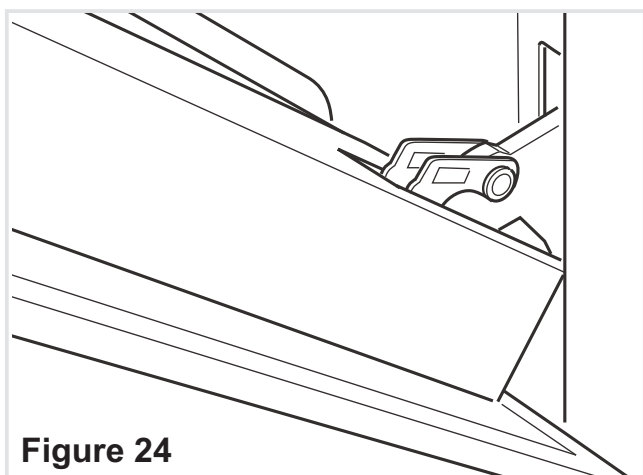

Figure 24
1. Make sure the door is locked open (see fig. 24).